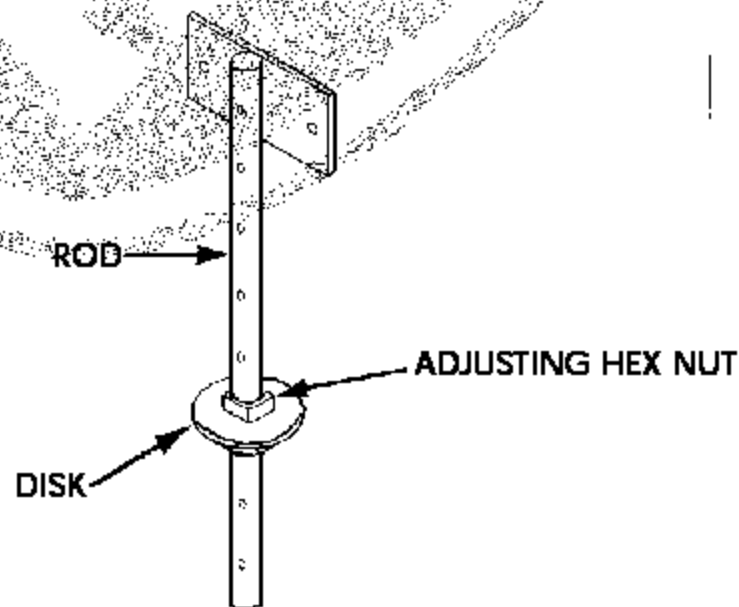

Figure 20. Capacity Indicator Adjustment
4. Loosen the jam nut on the capacity indicator rod and screw the round level indicator up or down, as required, until the liquid level just touches the bottom of the indicator (Figure 20). Hold the indicator firmly and tighten the jam nut.